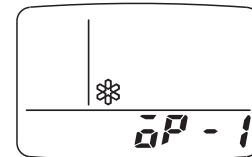

Fig. 10
- d) ❄ appears and "oP-1" blinking in the remote controller clock display area. (Fig. 10)